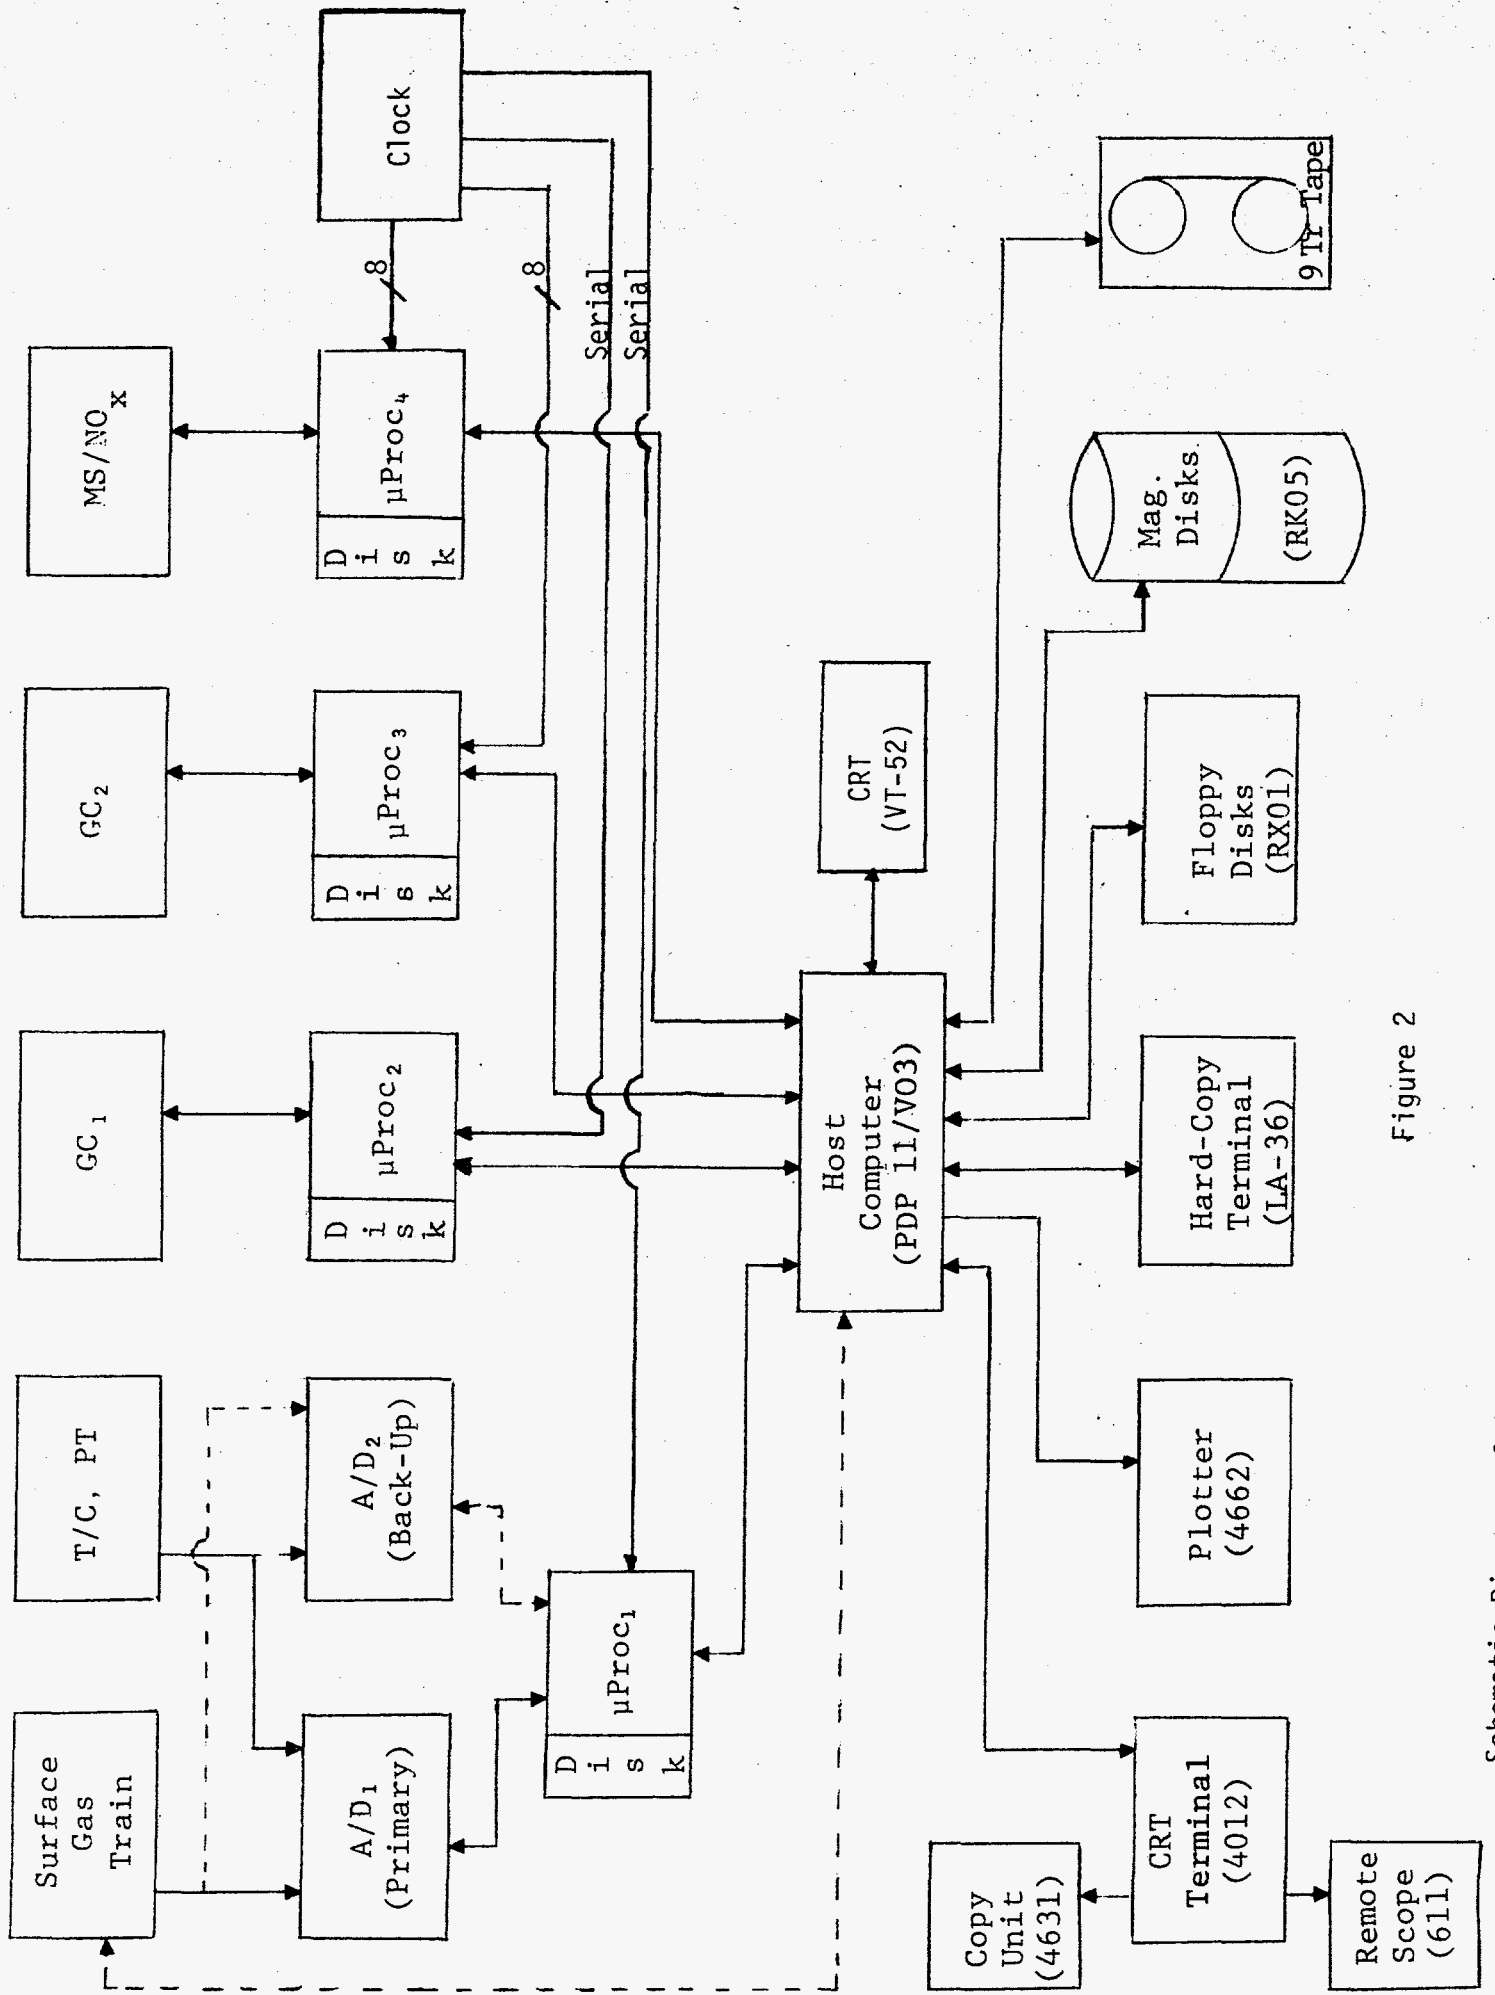
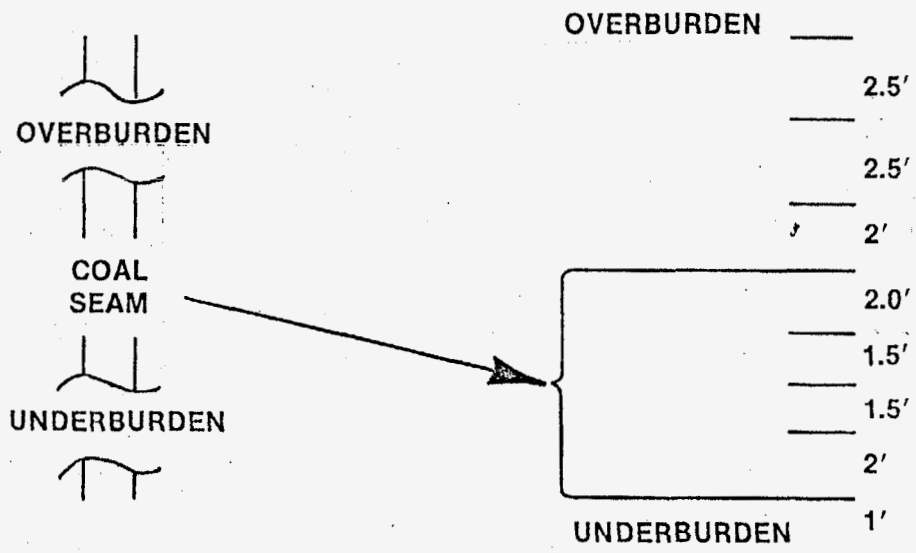

Figure 2
Figure 3
A real-time automated data acquisition system should include features such as dependability, ease of maintenance, rapid problem isolation and backup capability. A schematic diagram of the Pricetown I system indicating such features as well as the overall layout is shown in Figure 2.
(LSI-11) which acts as a data collector-concentrator. As indicated in Figure 2 each satellite microprocessor is assigned a specific acquisition and/or control function. For example, microprocessor 4 provides signals to the gas chromatograph satellites when its detection algorithm detects unusual data occurrences. All satellites record data on diskettes as the data are collected. The diskette is managed as a first-in, first-out (FIFO) buffer so as to always have as many current data items as possible on the diskette. Consequently the oldest data items are overlaid by the most current data items.
2. Temperature Data. As indicated in Figure 2 the temperature signals are routed to a Digitrend Data Logger, processed through microprocessor 1, and then transmitted to the host computer. Data will be collected from each of 40 thermocouples, 10 per test well, and a total of six readings per thermocouple will be acquired, four temperature readings and two diagnostic readings. The relative positions of these thermocouples in the coal seam, the overburden, the underburden, and the two interfaces between the coal and over- and underburden are shown in Figure 3.
The integration of microprocessor 4 which controls and collects data from the mass spectrometer system, and interacts with the microprocessors that control and collect data from the gas chromatograph system is depicted in Figure 2.